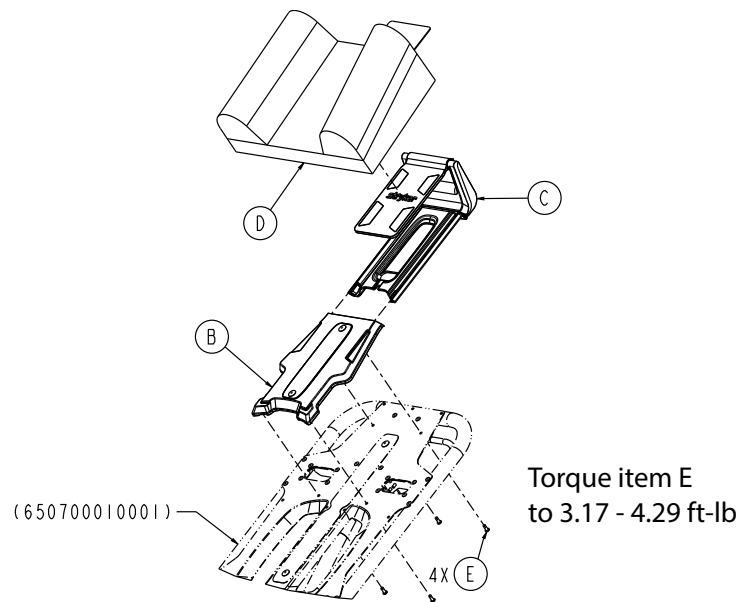

Figure 119 – Head extension option components
7. Using a T25 Torx driver, remove the four button head cap screws (E) that secure the head extension mounting body (B) and head extension assembly (C) to the head section skin (Figure 119). Save the screws. Discard the head extension assembly.